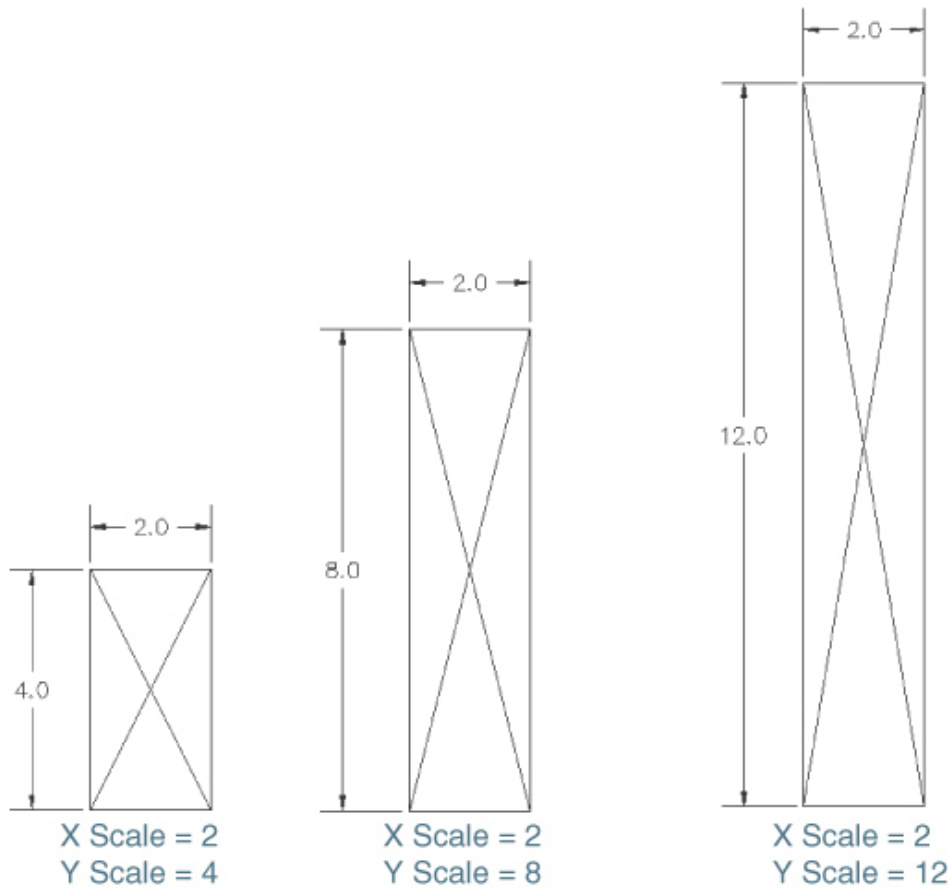

Figure 16-12
Unit blocks can be scaled along one axis so that one block definition can serve multiple purposes. A classic example is a structural lumber section, which is typically represented by a nominally sized rectangle with a cross through it (see Figure 16-12). Creating the lumber section as a unit block allows you to specify different x and y scales when the block is inserted so that different lumber sizes can be created as shown in Figure 16-12.
- 18** Your drawing should look like Figure 16-12, shown earlier.